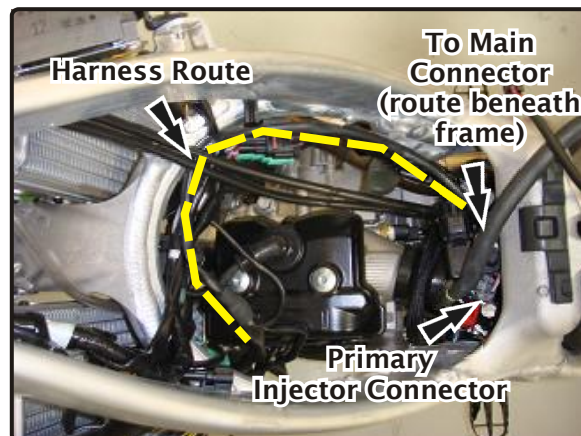

Fig. 1
- 3 Lay harness inside frame as shown in Fig. 1.
- 7 Disconnect stock primary injector connector and connect PIM2 injector connectors (Pink/Grey wires) in line with the stock connector and injector as shown in Fig. 1.